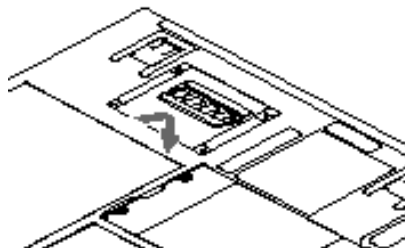

Figure 4-9 Installing a Memory Upgrade Module
7. Align the connector edge of the memory upgrade module with the connector slot in the compartment. The notch on the module should be on the right with the part side up and the connector pointing towards the back of the notebook and aligned with the notch in the compartment connector. (Figure 4-9.)
8. Insert the memory upgrade module at a 45° angle. (Figure 4-9.) Press the connector edge of the module firmly down and into the connector in the compartment.